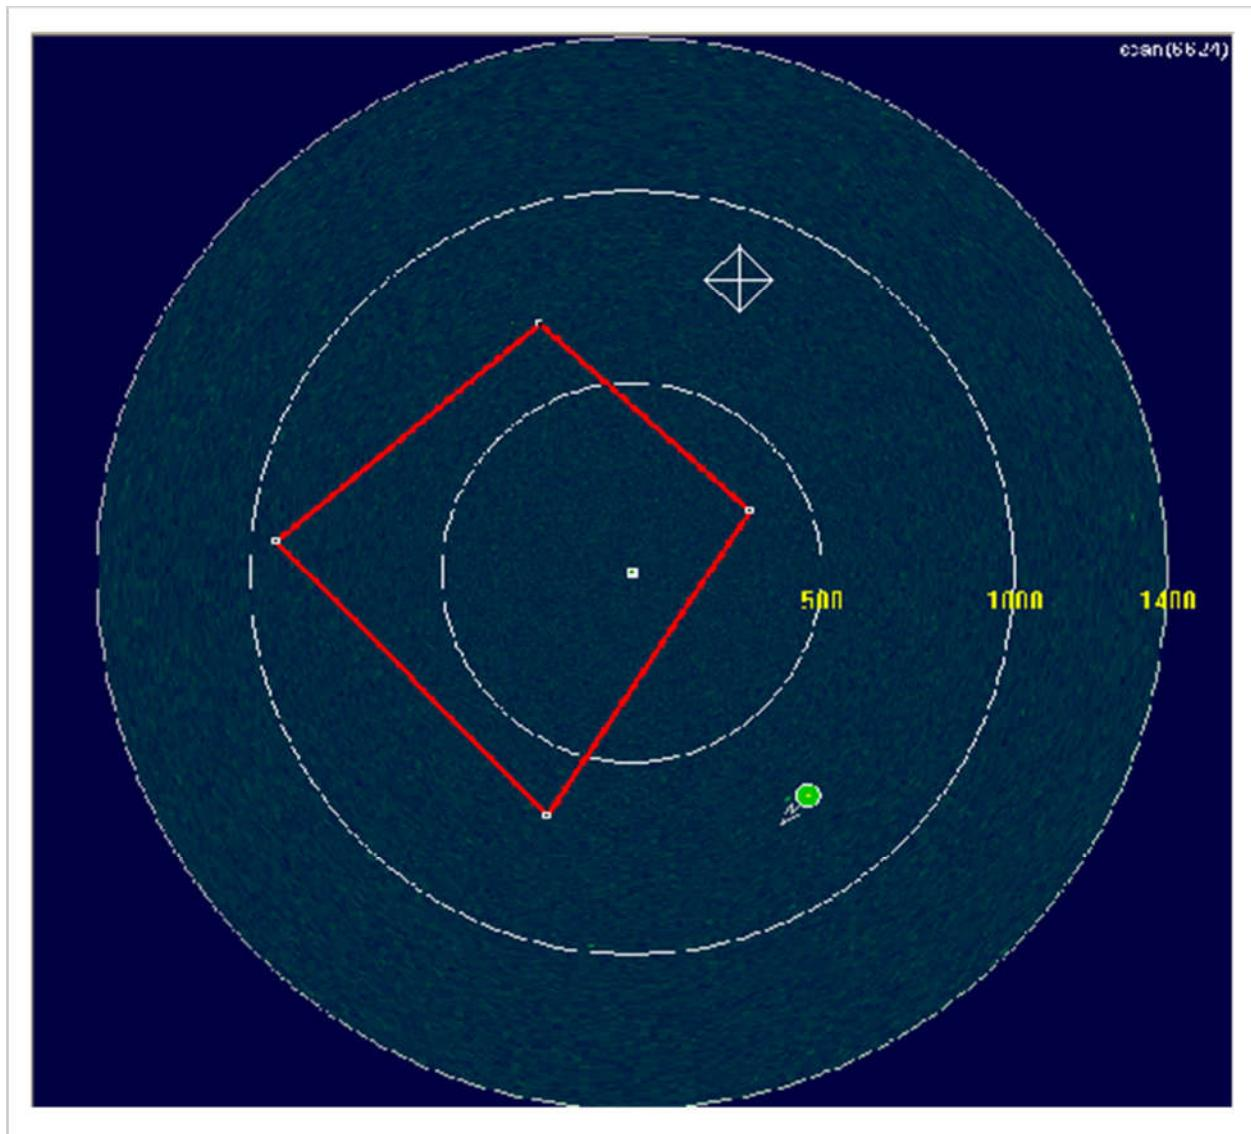
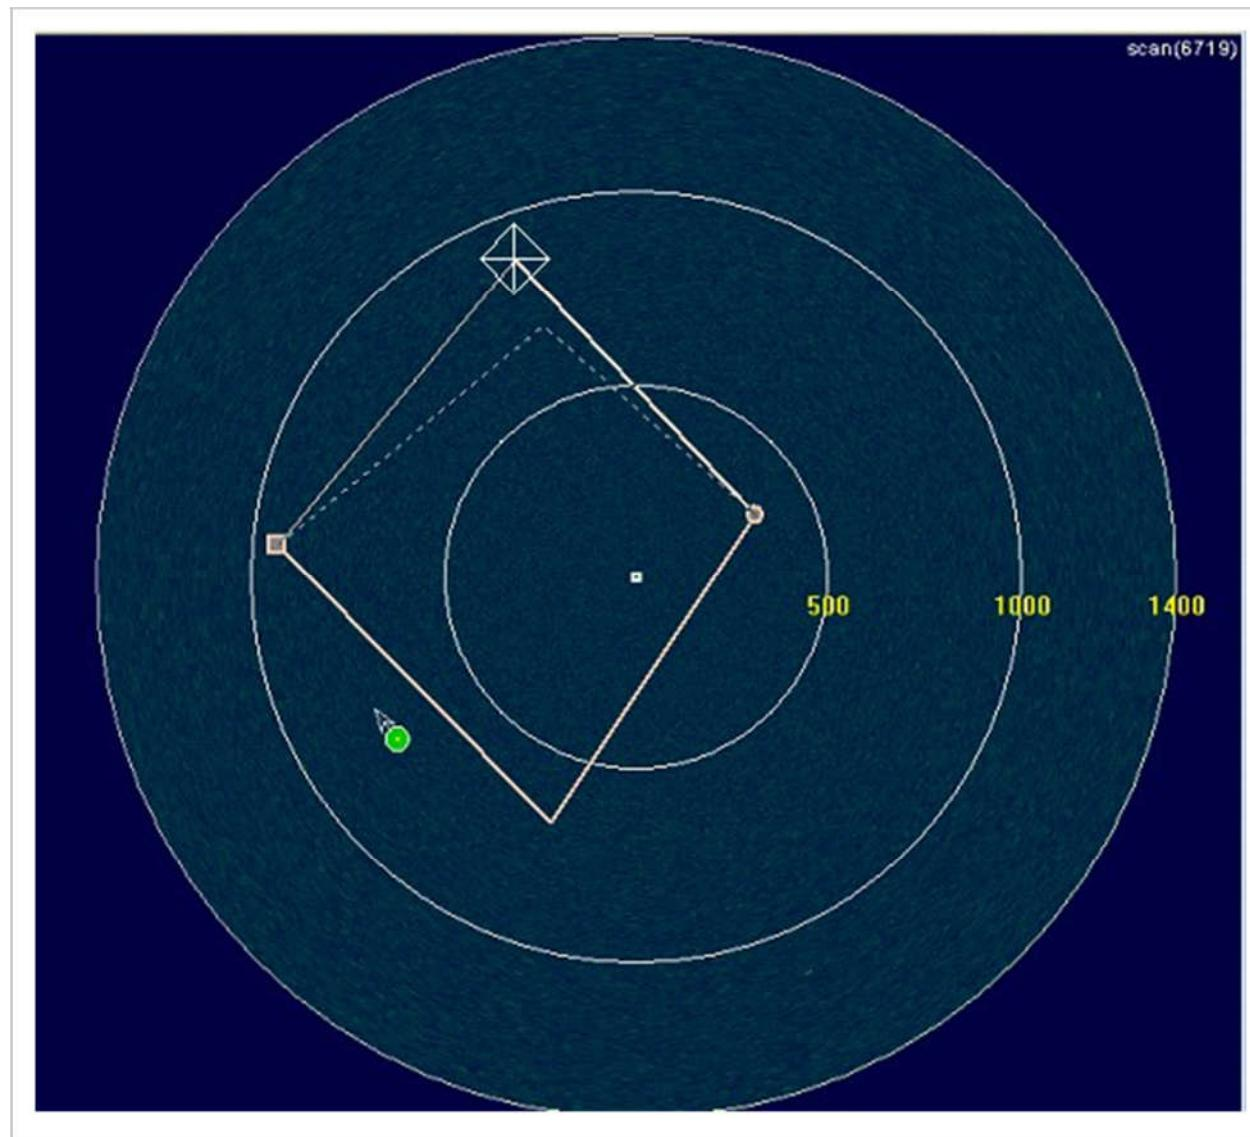

Figure 25 - Modifying a Zone (Step 1 of 2)
Figure 26 - Modifying a Zone (Step 2 of 2)
To modify a zone, the user must **left-click** with the mouse on a vertex of the zone to be modified. The zone will then enter the edit mode, as shown in Figure 25 and Figure 26. Once in the edit mode, the process is the same as the zone creation process.
After modifying one (1) or more zones, the changes can be committed (saved) or discarded. This is accomplished using the appropriate **Edit Menu** command, as shown in Figure 25 & Figure 26, or by using the commit button .